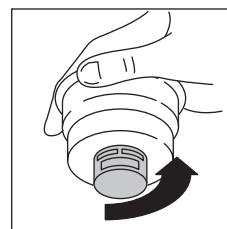

fig. 26
- Remove the crema enhancer cup (fig. 26) by unscrewing in the direction indicated by the arrow on the cap.